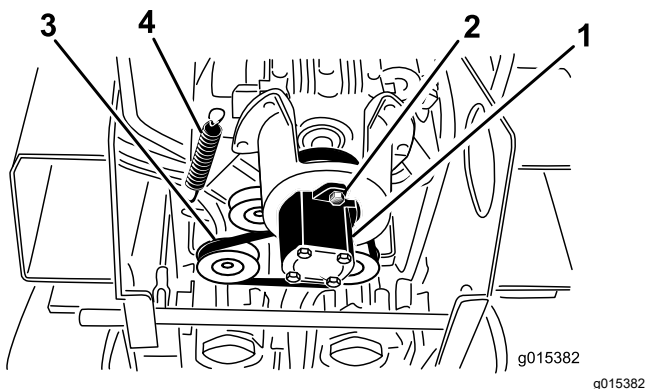

Figure 53
5. Loosen the 2 pump bolts (Figure 53).
6. Twist the pump counterclockwise and allow it to drop down away from the pulley (Figure 53).
7. Using a spring puller (contact your Authorized Service Dealer) or stiff metal hook, pull the end of the idler pulley spring off the spring bolt to release tension on the belt (Figure 53).